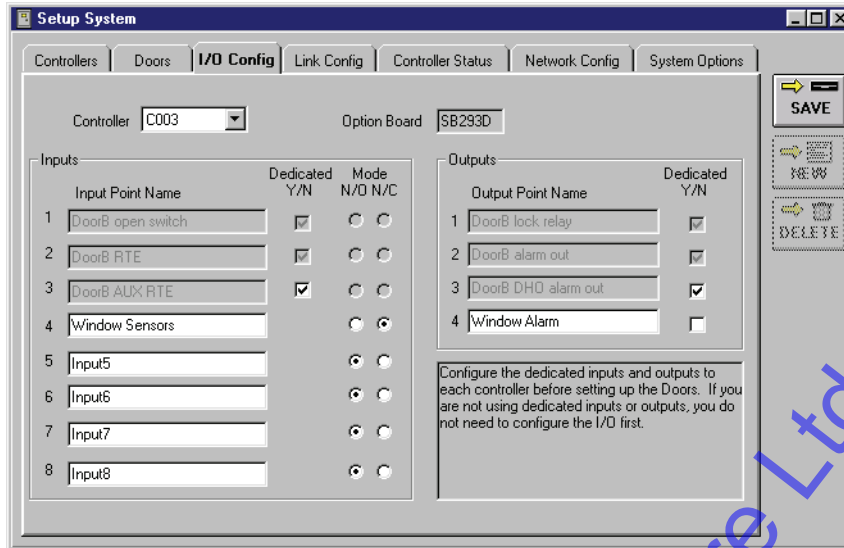

Figure 6-36: Input/Output Point Definitions
The I/O Config tab displays the input and output points that are available per controller (see Figure 6-36 on page 33 of this section). An operator can assign a descriptive name to every non-dedicated input and output point and can identify if an input is normally-open or normally-closed. Grey input and output point name fields indicate those inputs and outputs are dedicated by the controller and are not available for link assignment.
7. The resulting window should appear similar to Figure 6-36 on page 33 of this section.